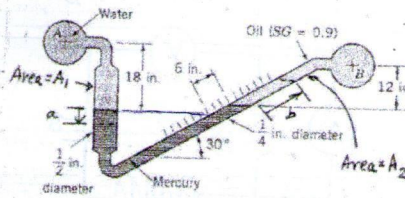

FIGURE P2.64
2.64. Determine the change in the elevation of the mercury in the left leg of the manometer of Fig. P2.64 as a result of an increase in pressure of 5 psi in pipe A while the pressure in pipe B remains constant.